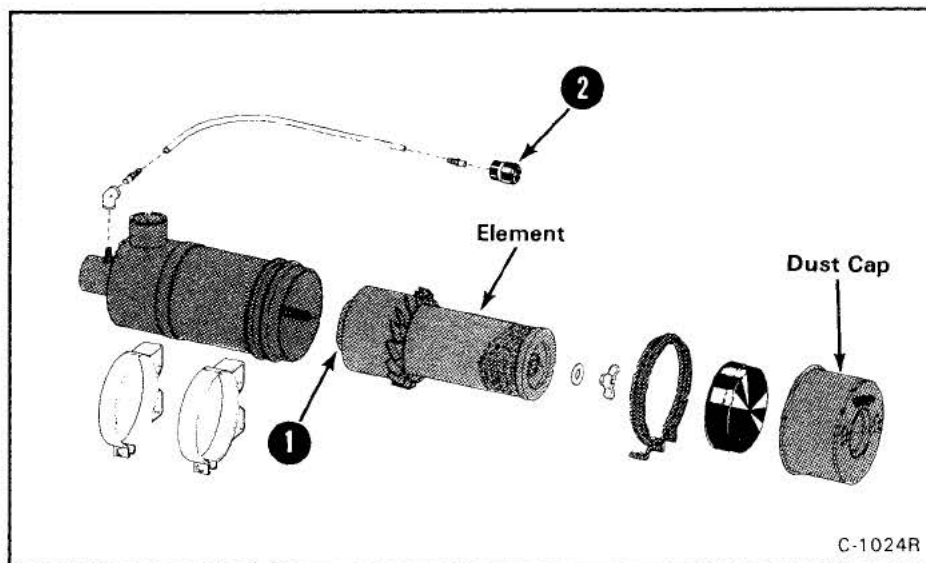

Fig. 44 Air Cleaner
2. Clean the inside of the filter housing so that the element has a smooth surface to contact at the seal (Fig. 44, Item 1).
5. Install the dust cup so the arrow on the bottom of the cup is up (Fig. 44). Tighten the clamp.
6. Push the button at the condition indicator (Fig. 44, Item 2), to remove the red ring.